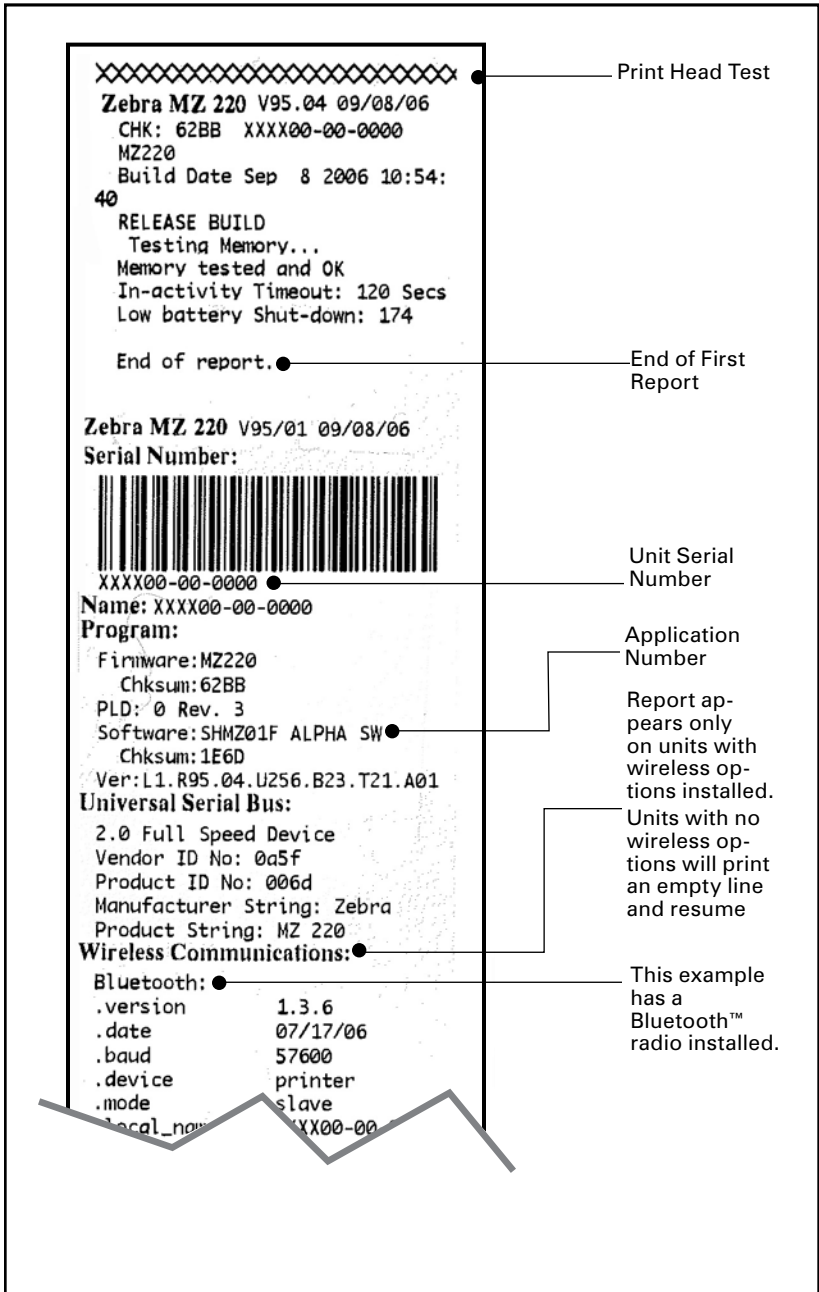

Figure 17: Configuration Label Example (MZ 220 illustrated)
- Unit serial number (Found on the large label on the back of the printer, also found in the configuration label print-out. Refer to Figure17.)